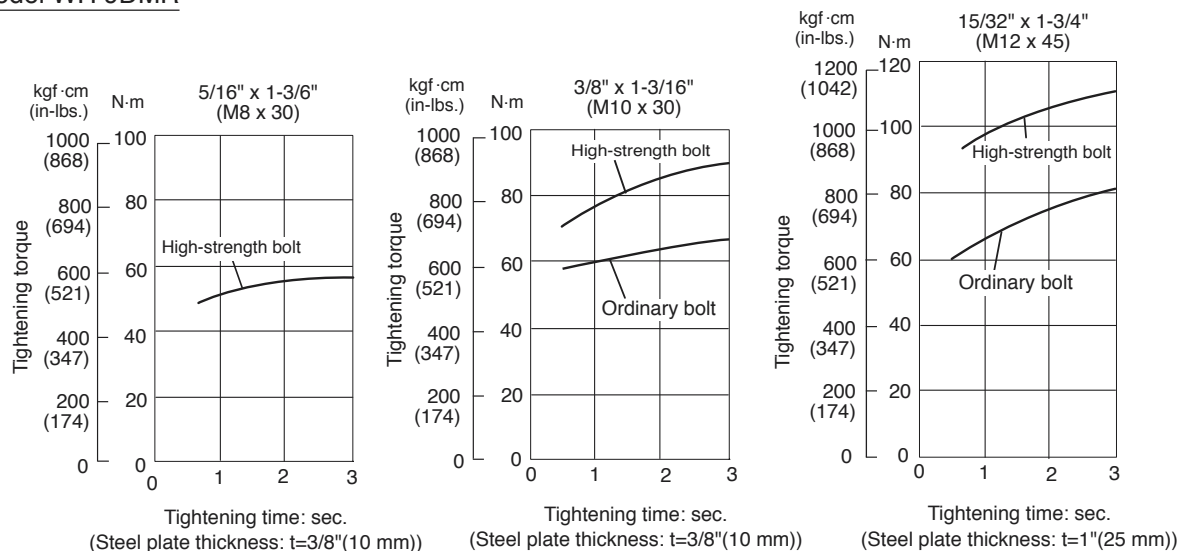

Fig. 5-1
Figures 5-1 and 5-2 show relationships between time and tightening torque for individual bolt types and sizes. While the data are useful for handy reference, actual tightening torque will vary depending on tightening conditions and other variables. For details, please refer to Para. 7-3, "Tightening Torque Variation".
- In the tightening conditions shown in Figs. 5-1 and 5-2, the screws are being tightened directly into a steel plate; accordingly, the torque goes up very abruptly in comparison with ordinary bolt tightening conditions.